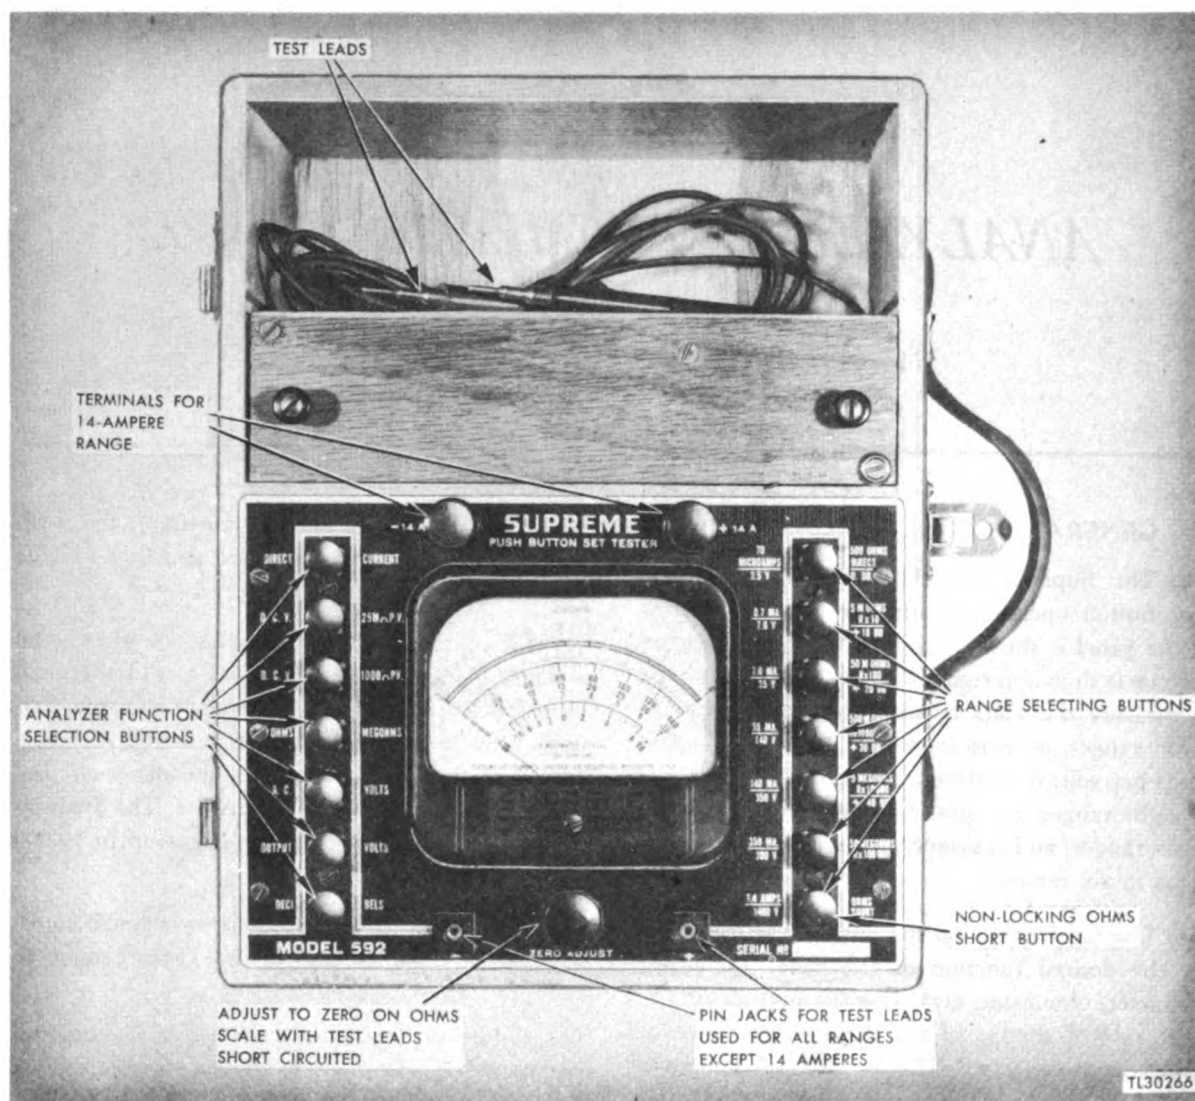

Figure 11. Analyzer, Supreme series 592, panel view.
a. The Supreme model 592, is an automatic, push-button operated multimeter. The front view of the panel is shown in figure 11. The schematic diagram is shown in figure 12. This unit is equipped to measure d-c volts between zero and 1,400 in seven ranges, at sensitivities of 25,000 and 1,000 ohms per volt; d-c current from zero to 14 amperes in eight ranges; a-c volts between zero and 1,400 in six ranges; and resistances from zero to 50 megohms in six ranges.
a. *Limitations.* (1) Operating voltages in Radio Set SCR-268-(*) cover a range from a fraction of a volt to about 11,000 volts. Voltages in parts of certain components cannot be measured accurately by the analyzers because they exceed the range of the analyzers. Such voltages appear in the transmitter, the rectifier, the modulator, the high-voltage